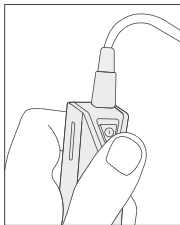

FIG.13
3. Turn the device ON by pressing the Power button (Fig.13). Make sure that the green indicator light turns ON (Fig.8).